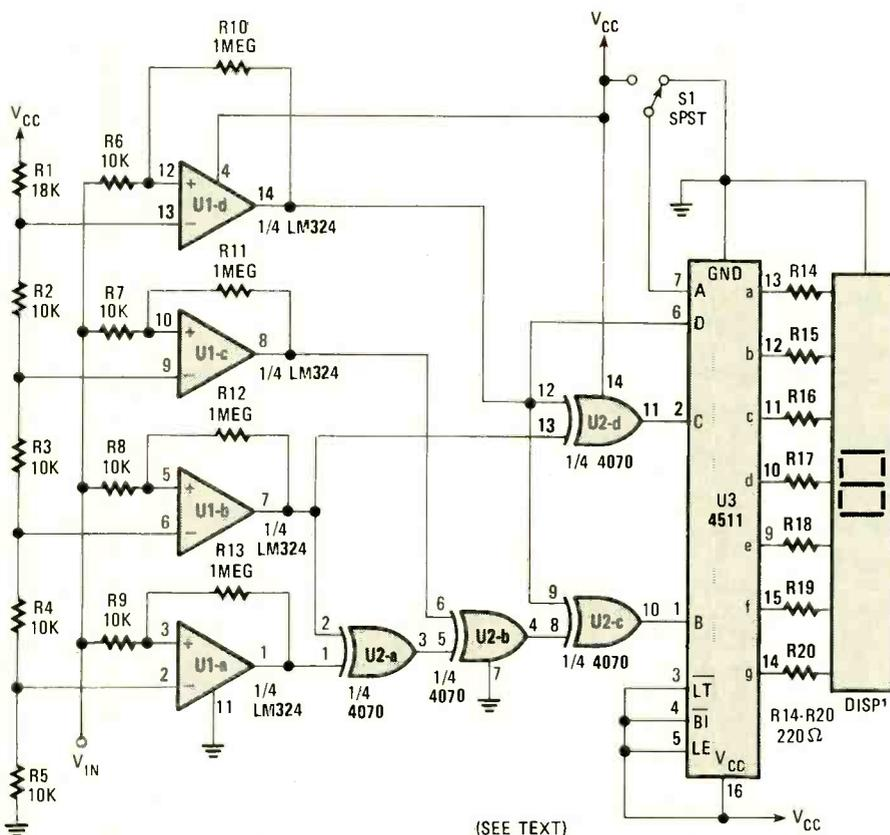

Fig. 1. The Digital Readout displays a scale using either even numbers or odd numbers, from low to high (0, 2, 4, 6, 8) or from high to low (8, 6, 4, 2, 0).
**Digital Readout.** This unit displays a scale using even numbers or odd numbers. It's simple, inexpensive, and uses only three IC's. See Fig. 1. When  $V_{IN}$  is below all four references on the LM324, all outputs are low, causing all outputs of the 4070 to be low. That causes a 0 to appear on the seven-segment LED display (DISP1).